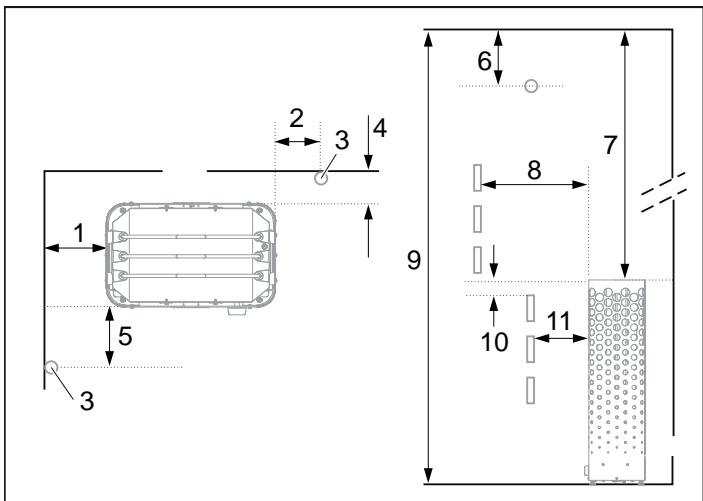
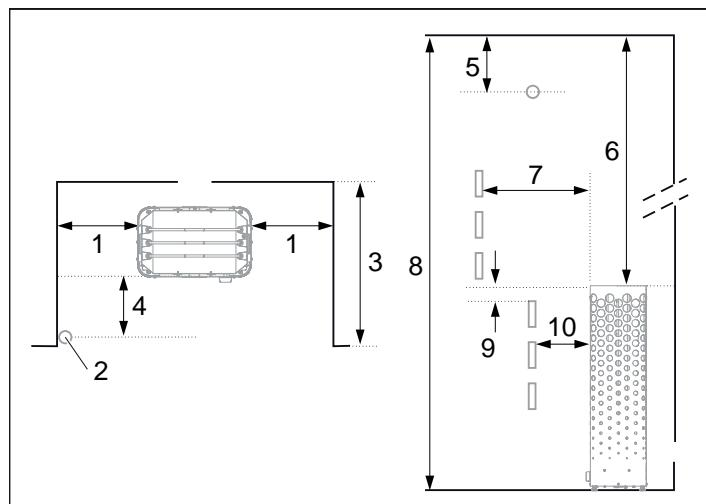

Figure 3: Positioning the heater - normal installation
Figure 5: Positioning the heater - recess installation
- Plan the sensor positioning (see Figure 3, page 8 and Figure 5, page 8).
- on the same wall as the door (or the side wall, if very close to the door wall). The heater may also be placed in a recess (see Figure 5).
- Position the heater at a safe distance from the floor, side walls and interior fittings (see Figure 3).
Position the sensor according the picture (see Figure 3).
1. Position the heater at a safe distance from the floor, side walls and interior fittings (see Figure 5).
2. Position the sensor according the picture (see Figure 5).